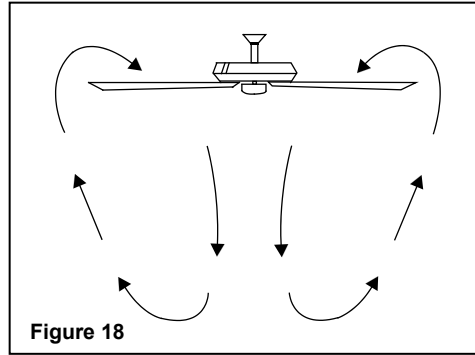

Figure 18
**Warm weather - (Forward)** A downward airflow creates a cooling effect as shown in Fig. 18. This allows you to set your air conditioner on a warmer setting without affecting your comfort.